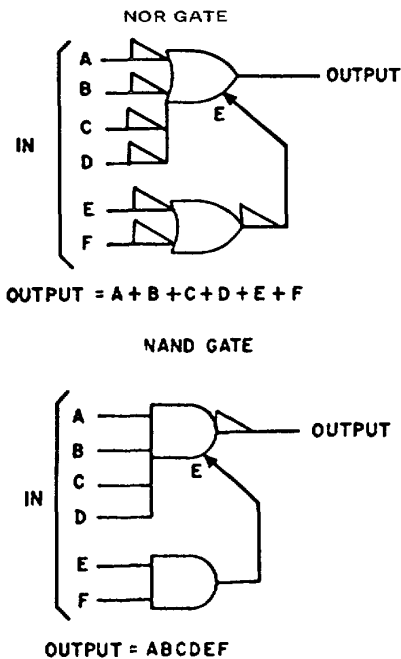

Figure 4-15. Expanded Input Gates
**4-21.** Gate inputs may be expanded through use of diode integrated circuit packs. Such gate buildups are represented by the symbols shown in Figure 4-15. Any number of expander gates may be tied to the E input of the primary gate to achieve the desired number of inputs.